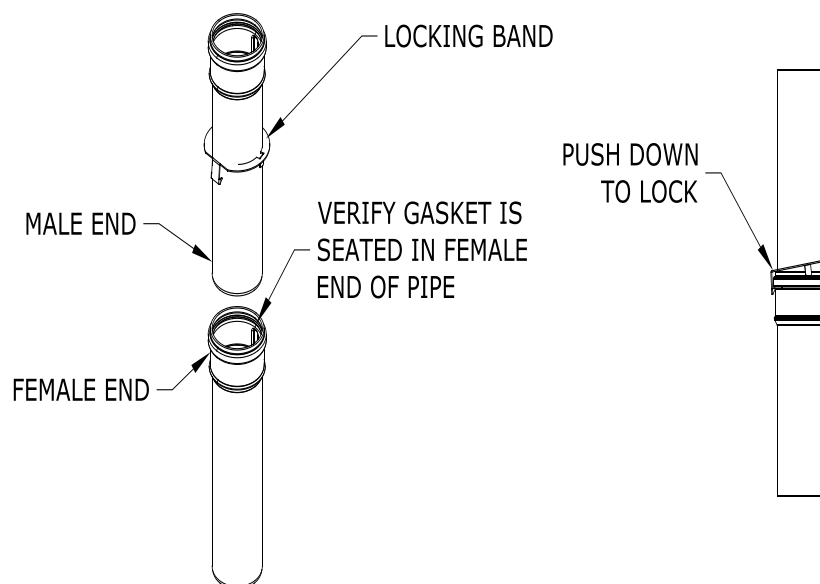

Figure 7.35: PolyPro Locking Band Installation
- c. For each joint, verify that the gasket is evenly seated in the bell (female) end of the pipe. Lubricate this gasket with water. Slide a locking band over the male end of the pipe to be joined as shown in Figure 7.35. Push the male end of the next section of pipe into the bell until it bottoms out, then back out 1/4-5/8" to provide room for thermal expansion. Push barb on locking band over the bell end of the first section of pipe as shown in Figure 7.35.